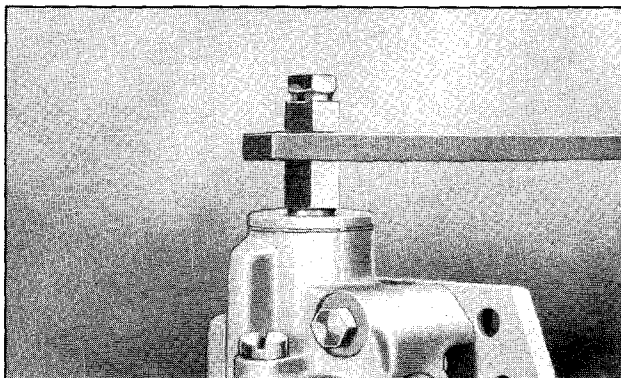

Figure 4—Removing Shock Absorber End Cap
3. Remove filler plug, drain fluid completely; then remove end caps with special tool (J-767) as shown in figure 4.
4. Remove relief valve nuts (8 and 13), rebound valve (10), compression valve (11), and intake valves (17). To remove intake valves, first remove valve spring retainer clip (15) with a screw driver; then lift out springs (16) and valves.
5. Remove plugs (20) over piston screws (19); then disassemble pistons (13 and 18) by removing piston screws (4) and remove from cylinder.